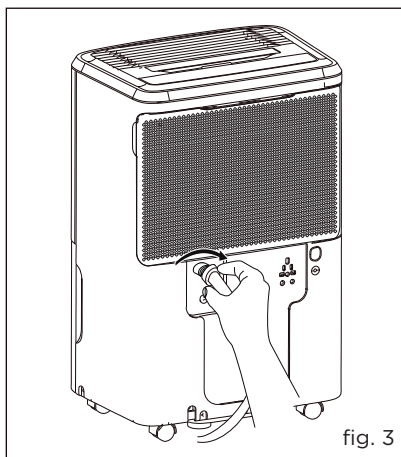

fig. 3
- d. Screw the garden hose onto the threaded portion of the drain connector. (fig.3)